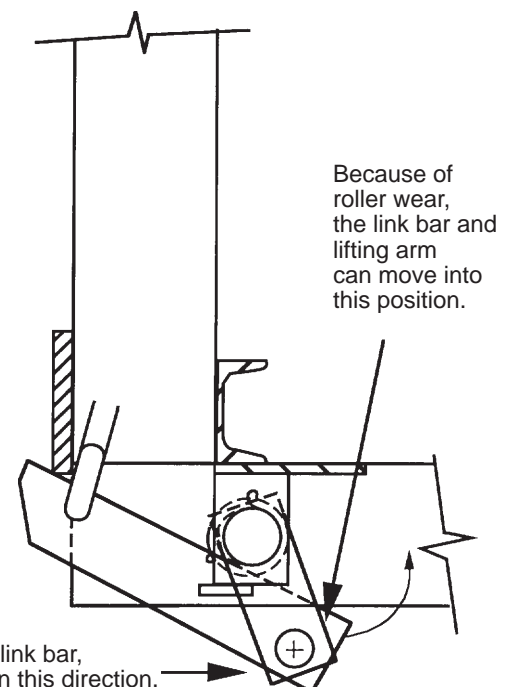

Fig. 1-20– Unusual Link Bar Position Caused by Roller Wear
If the rollers are worn, one of the link bars may be allowed to swing into or hang in the position shown in Fig. 1-20. This will prevent one of the brake mechanisms from resetting.
To reset one of the brake mechanisms, insert the maintenance devices as shown in Fig. 1-18. Go to the rear of the lift and work from inside the frame of the tower. *Never stand under the lift platform as you reset the brakes.* Force the link bar forward, toward the front of the lift, as shown in Fig. 1-20.
If the rollers are worn, one of the link bars may be allowed to swing into the position shown in Fig. 1-20. This will prevent one of the brake mechanisms from resetting.
2. Lower the lift platform and check that the cylinder is completely bottomed out. It is important that the platform be resting on the floor when you make this adjustment. Use the manual lowering valve to be sure the cylinder is completely bottomed out. (This control will energize the down valve and release the pressure from the hydraulic ram.) The brake link pin should be in the position shown in Fig. 1-19a. (If the adjustment is incorrect, the brake link may be in the position shown in Fig. 1-19b, or could snap into the position shown in Fig. 1-20.) If the brake mechanism is out of position, try to reset it by lifting and lowering the lift platform. You may also need to reset it as shown in Fig. 1-20. Remember to stay out from under the lift platform as you do this.